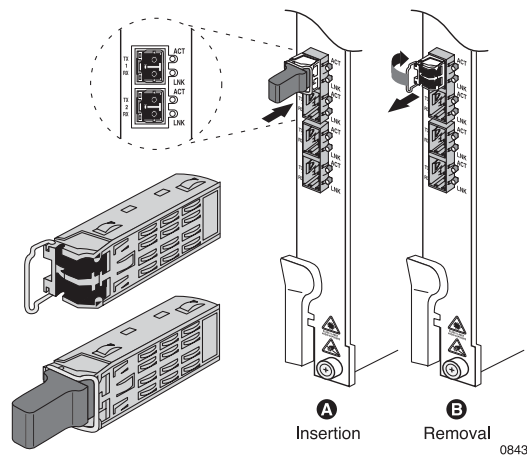
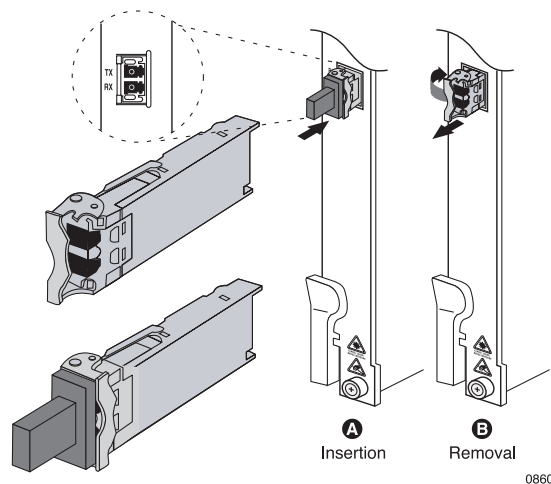

Figure 21 *Installing an SFP Transceiver*
Figure 22 *Installing an XFP Transceiver*
3. With the transceiver connectors aligned with the RX and TX labels on the front panel of the line card (as shown in Figure 21 or Figure 22), slide the transceiver into the opening for the port until the rear connector is seated and the locking mechanism snaps into place.